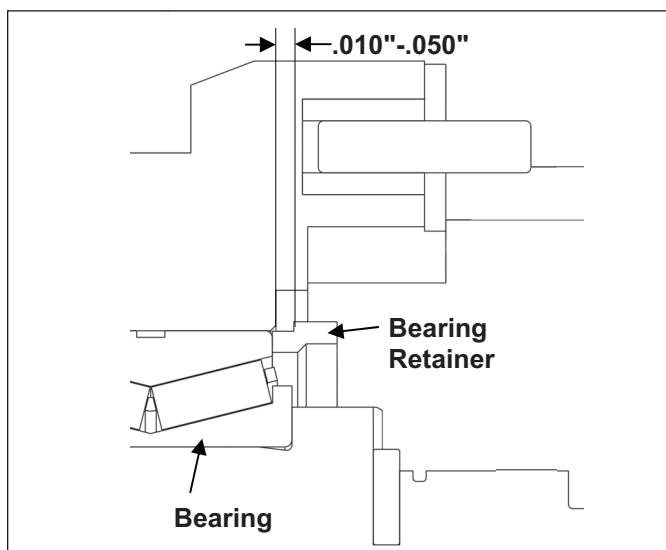
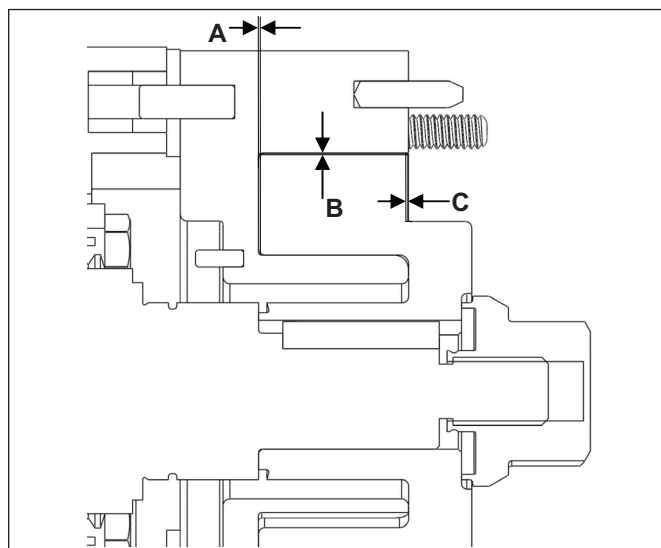

Figure 49. Bearing Retainer Clearance
Figure 50. Important Clearances
5. Once the shafts are pressed into the gear case, install the bearing retainers to hold the shafts in place temporarily (do not install liquid sealant). Ensure there is proper clearance between the retainer and the gear case, as seen in *Figure 49*. Place the body on the gear case, making sure it is seated correctly. Assemble the rotors into the body and tighten down using the jam nuts. Measure dimensions A, B, and C seen in *Figure 50* and refer to *Table 10* on *page 42* to verify the clearances. If clearances are not correct, the shafts must be removed and the shims will need to be adjusted. If the clearances are correct, remove the rotors and body.